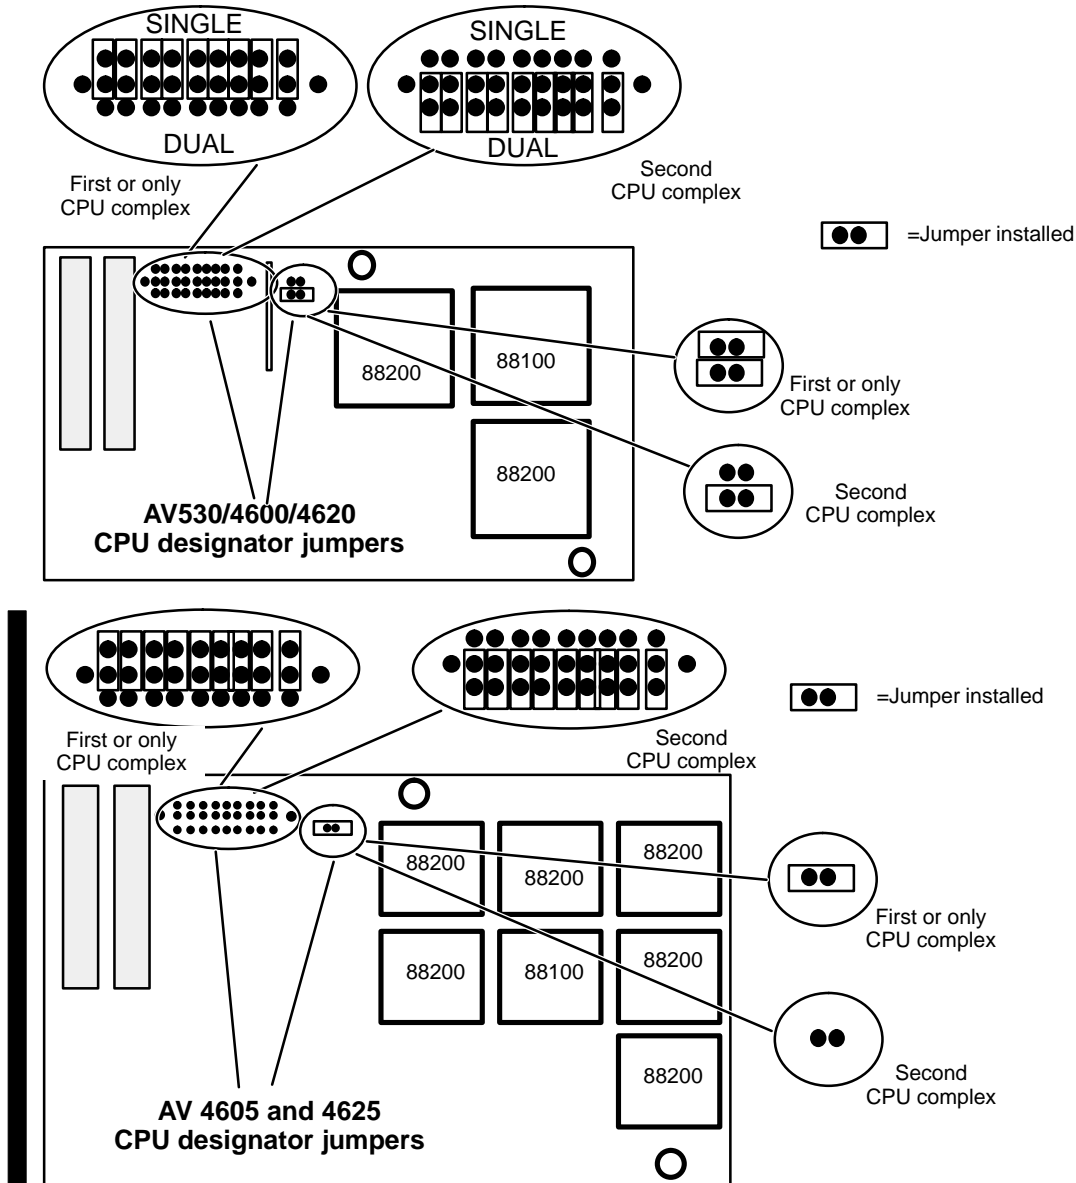

Figure 9-7 AViiON 530 and 4600 Series CPU Complex Configuration
3. Verify, and if necessary reset, the jumpers in the new CPU complex board as indicated in Figure 9-7. Note that the “first” complex must attach to the system board; a complex jumpered as the “second” board attaches to the first.